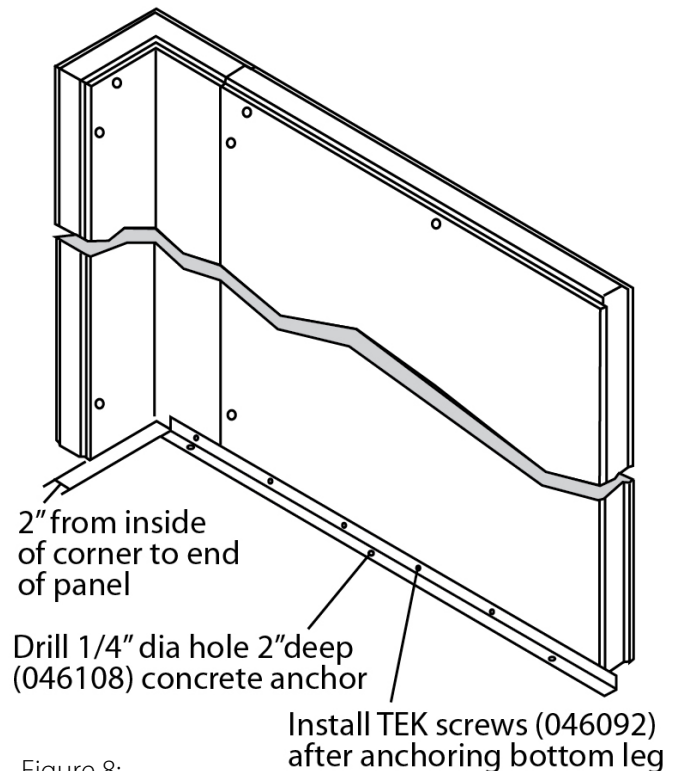

Figure 8:
- B. Angles are shipped in stock lengths and must be cut before installation. Calculate angle length by measuring inside of wall panels and subtract 4 ". Angles will start 2" from each end wall. See Figure 8.